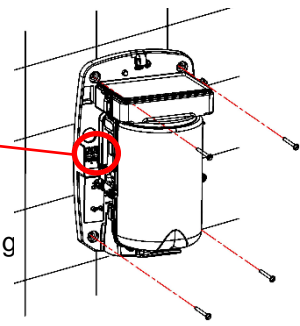

Figure 6.
- Firmly screw the base of the device to the wall (Figure 6), ensuring are correctly placed between the base and the wall.